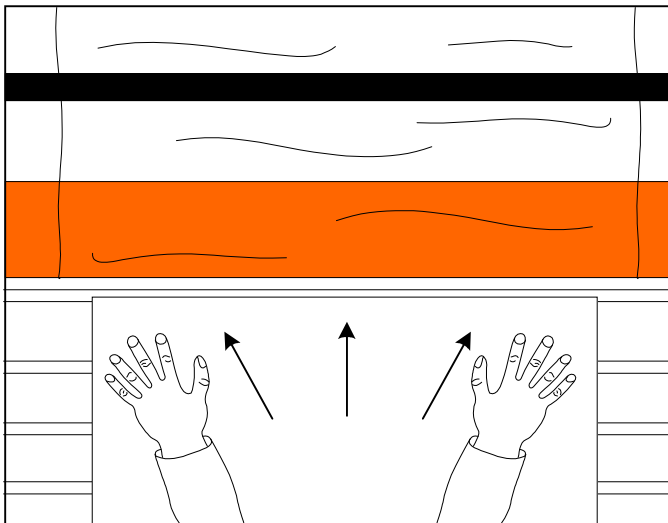

Fig. 32
10. With both hands and an outward force push the image slower than the speed of the rollers into the nip of the heat rollers (Figure 32).